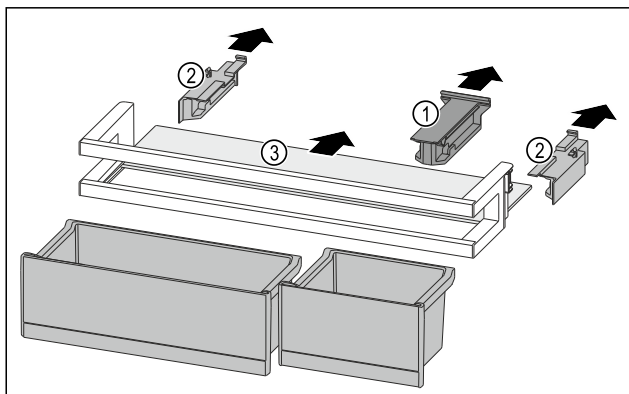

Fig. 212
- Pull off the holding part Fig. 212 (1).
- Pull off the side parts Fig. 212 (2).
- Remove the shelf Fig. 212 (3).